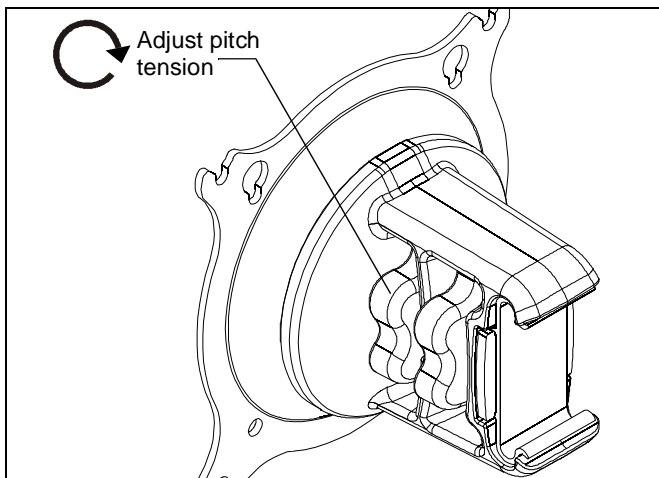

Figure 5
1. Tighten the outer knob to adjust pitch tension. (See Figure 5)